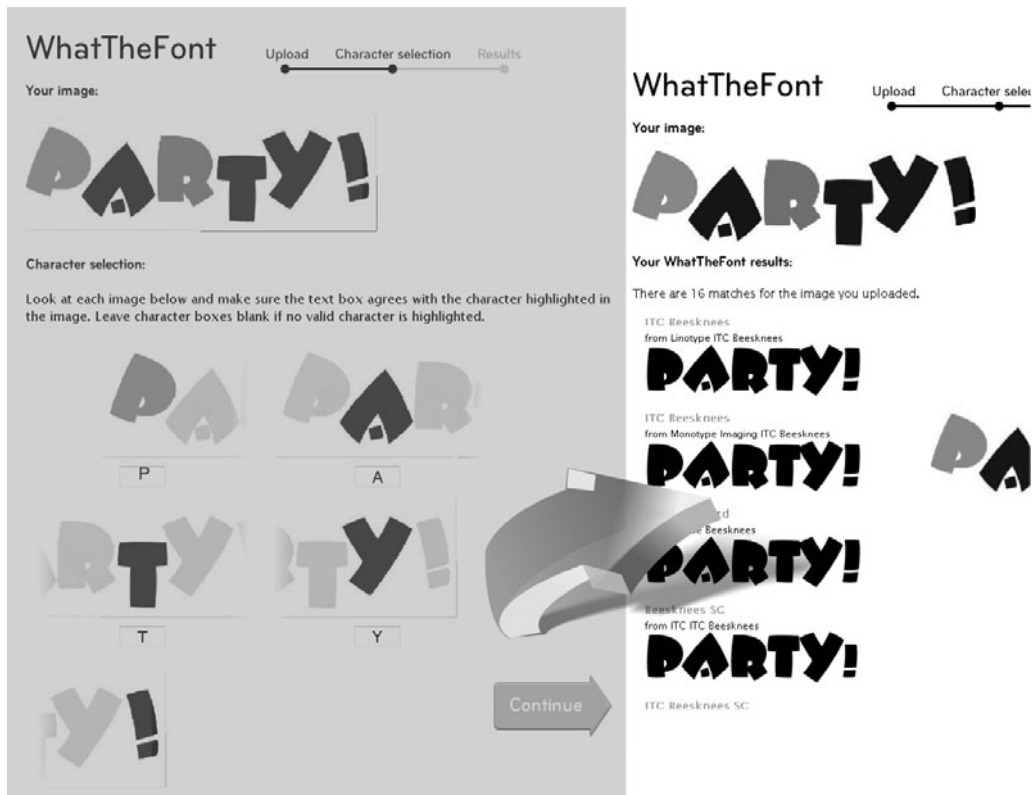

FIGURE 13-5 WhatTheFont identifies a typeface you have in a bitmap version of an invitation or other printed material.
7. After you click inside the box, WhatTheFont on the Web guides you through any help it might need to identify the typeface, as shown in Figure 13-5. At left you can see that this automated routine occasionally asks you for help identifying characters; for example, 1's and exclamation marks are sometimes mistaken for each another.